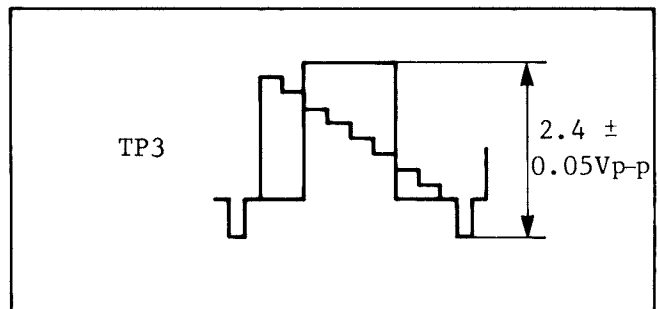

Fig. 2-5-5. Y NON LINEAR LEVEL
3. Adjust VR1 (Y NL LEVEL) to $2.4V_{p-p} \pm 0.05V_{p-p}$, as shown in Fig. 2-5-5.